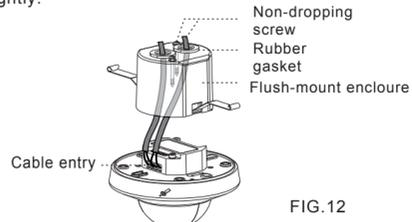

FIG.12
3.4.2.2 Use screwdriver to break the rubber gasket on flush-mount enclosure, then feed cables through it (See FIG.12).